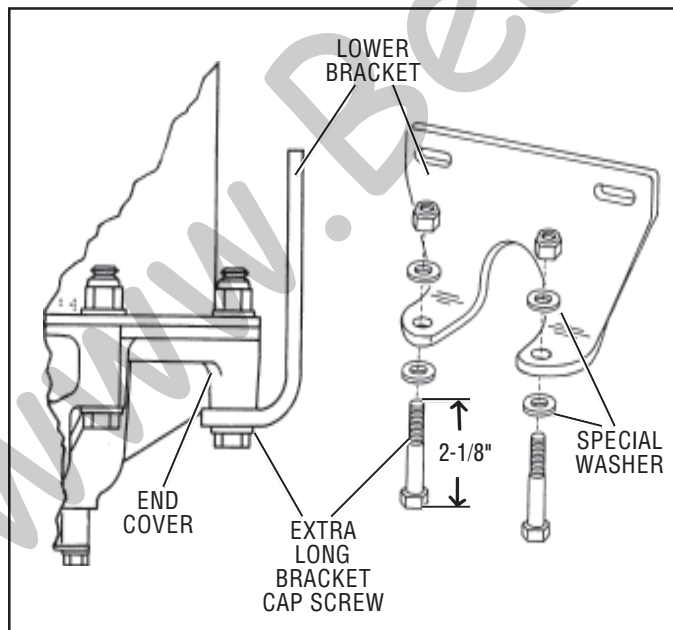

FIGURE 9 - LOWER BRACKET INSTALLATION
- position the unit for ease of installation. Locate the bracket such that it cradles the end cover as shown in Figure 9. Utilizing the two 2-3/8" long cap screws, lock nuts and special washers provided with the AD-9™ air dryer retrofit unit, attach the lower mounting bracket and torque to 270-385 in. lbs.